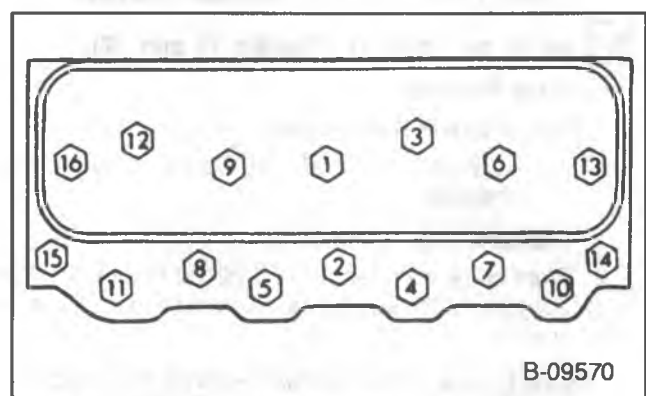

Figure 9 — Cylinder Head Bolt Tightening Sequence
Install or Connect (Figure 9)
- Cylinder head bolts, a little at a time, using the sequence shown in figure 9. Proper torque is 110 N·m (80 ft. lbs.).